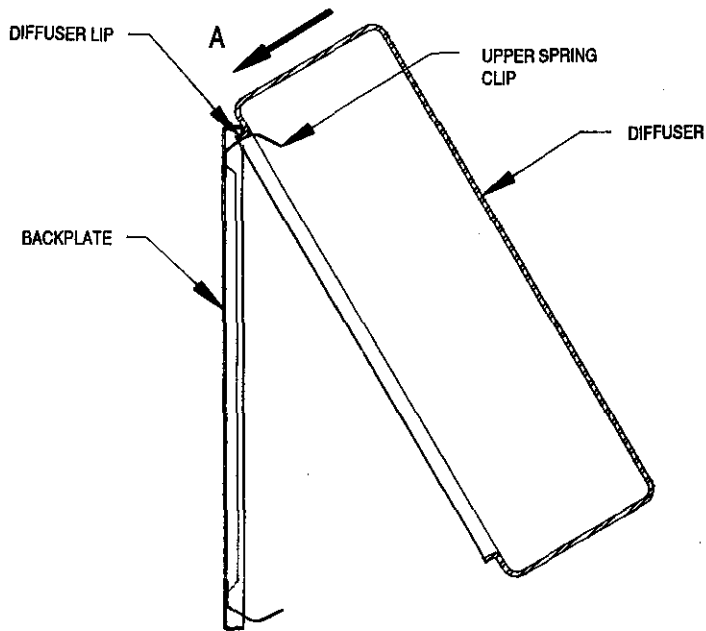

FIG. 2
1. Position DIFFUSER over top two SPRING CLIPS on BACKPLATE allowing LIP on the inside of DIFFUSER to engage over SPRING CLIPS (Fig. 2).